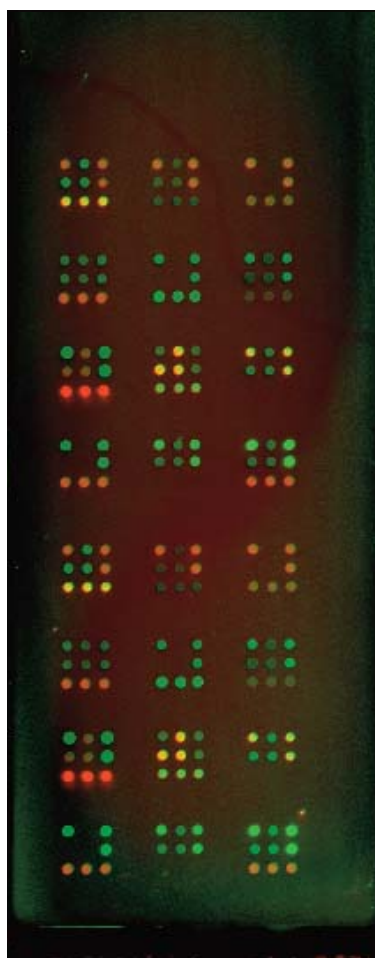

Figure 1. Two-color Qproteome GlycoArray detection using IRDye 700DX asialofetuin and IRDye 800CW goat anti-rabbit for lactoferrin detection.
- See Figure 1 for two-color image